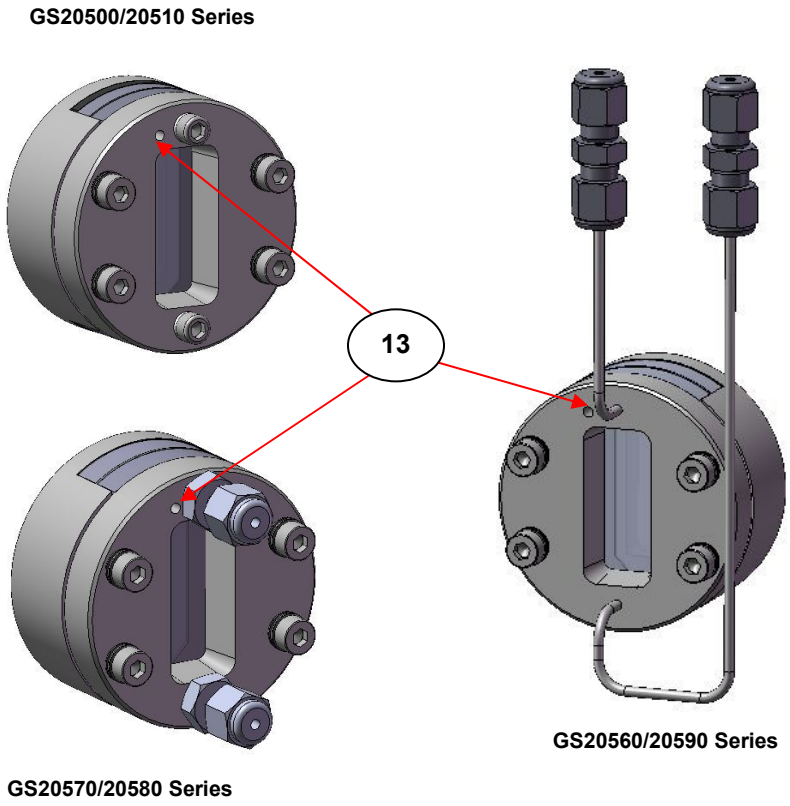

Fig. 9. Position of Thermocouple Well Hole on the Liquid Sample Cell Series Types
On **all** of the Liquid Sample Cell Series types, there is a small thermocouple well hole (13) in the front plate (1) that allows for installation of a thermocouple to monitor the temperature of the liquid cell and the sample. (See **Fig 9**.)